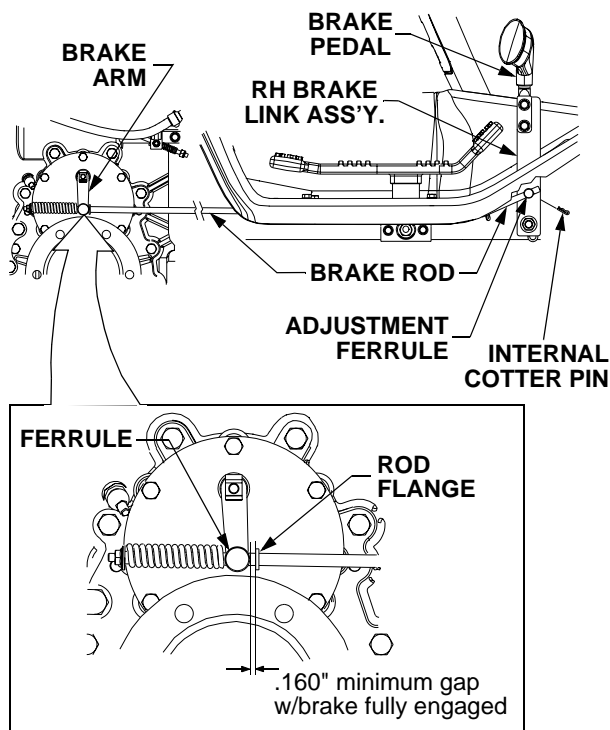

Figure 32
- From the right/rear side of the tractor, check the gap between the flange of the brake rod and the ferrule connected to the transmission brake arm. The gap should be a minimum of .160". See Figure 32.
- Remove the internal cotter pin and disengage the adjustment ferrule at the front of the brake rod from the brake link. See Figure 32.